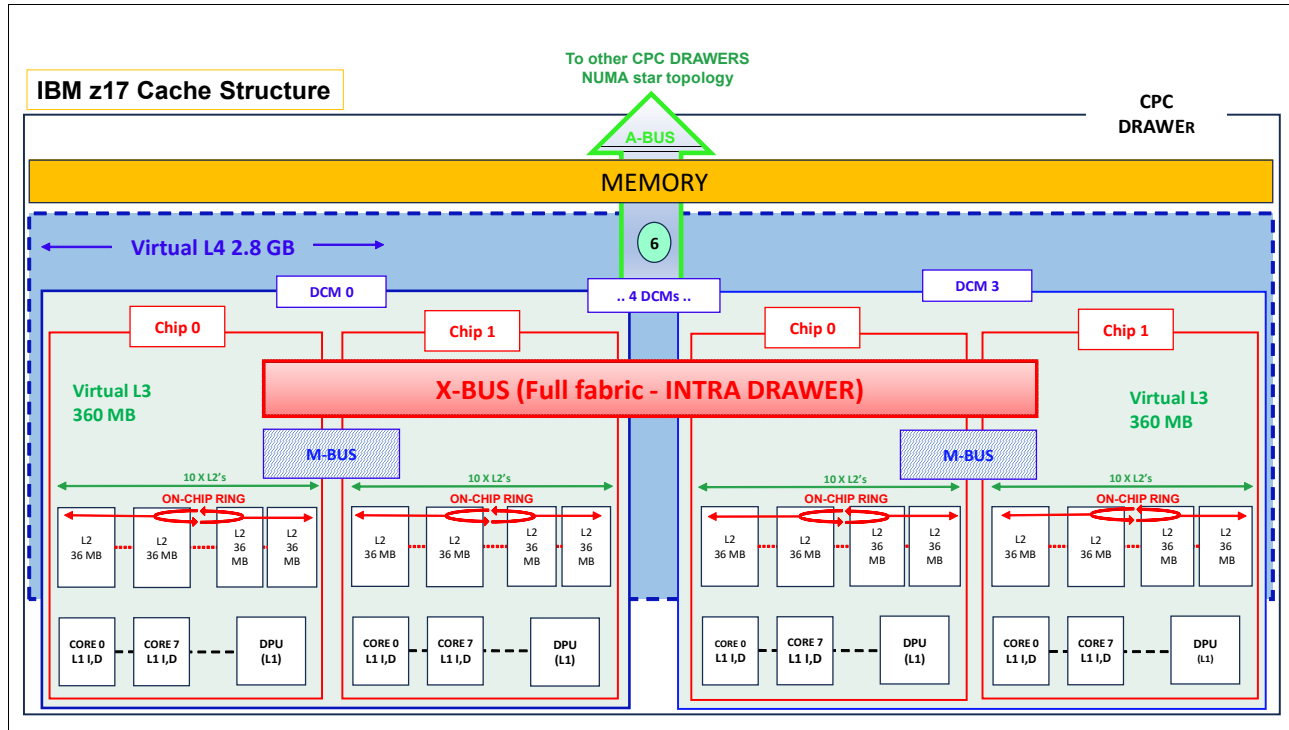

Figure 9-4 IBM z17 CPC Drawer Cache structure
IBM z17 processor memory and cache structure are shown in Figure 9-4. The physical L3 cache (on chip) and System Controller (SC) SCM (physical L4 cache for IBM z15), which was implemented in EDRAM, were removed and replaced on IBM z17 virtual L3 and L4 cache structure.